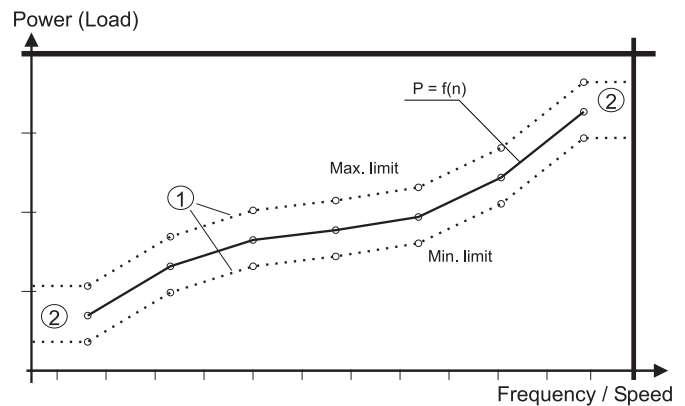

Figure 4.8 Supervision curve
The basis for the supervision curve is between two and ten recorded measurements $P=f(n)$. These measurements (points) are linearly interpolated by the software and encompassed with a max. and min. limit band (1) (see figure 4.8).
Upon recording the system automatically places a setpoint band around the curve with a distance of $\pm 10\%$ of the measuring range. The band will equal the highest value (load) for frequencies above the highest frequency and equal the lowest value for frequencies below the lowest frequency (2) - see figure 4.8.